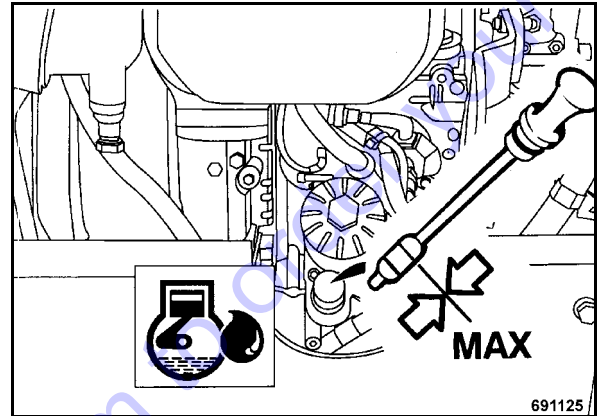

Fig. 47
- Pull the dipstick (Fig. 47) out, wipe it off with a lint-free, clean cloth and reinsert it until it bottoms.